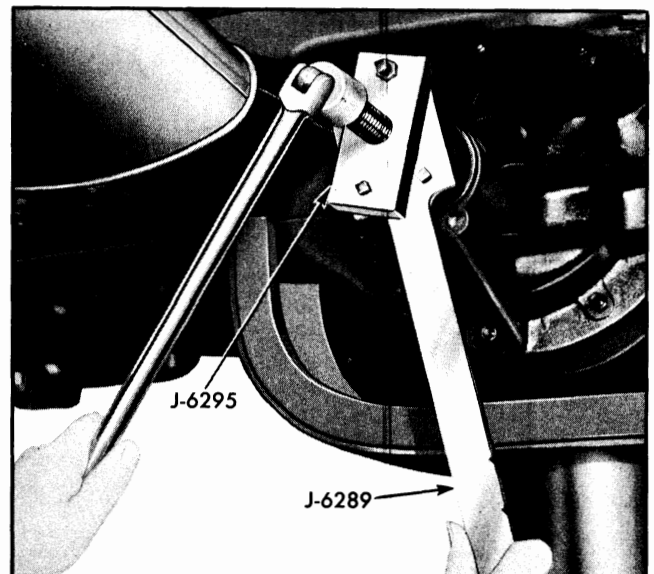

Fig. 4-10 Removing Companion Flange with Puller J-6295
5. Remove companion flange using puller J-6295 (Fig. 4-10).